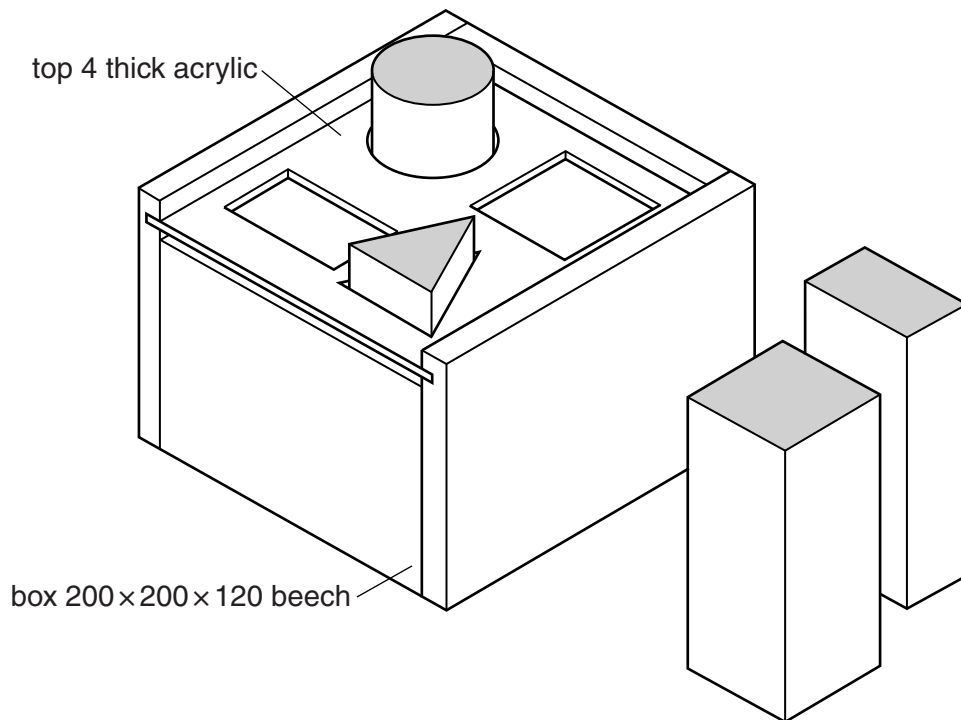

Fig. 10
- 12 Fig. 10 shows a child's shape sorting toy. The box and shapes are made from beech. The top is made from acrylic.